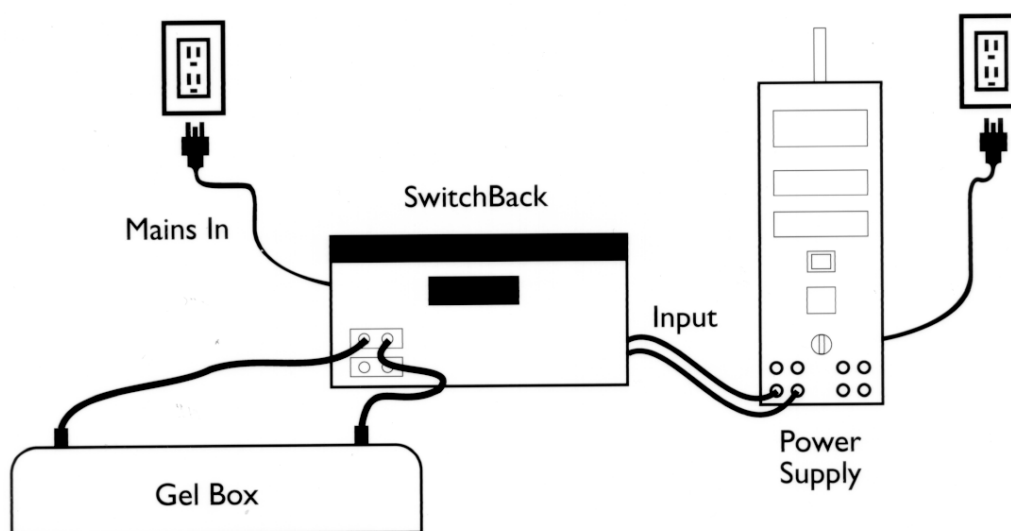

Figure 2. Instrument hook up
4. Connect the INPUT leads from the back of the SwitchBack to an approved power supply. Plug the power supply into a grounded wall outlet. (Figure 2 illustrates instrument hook up.) Do not turn the power supply on yet.